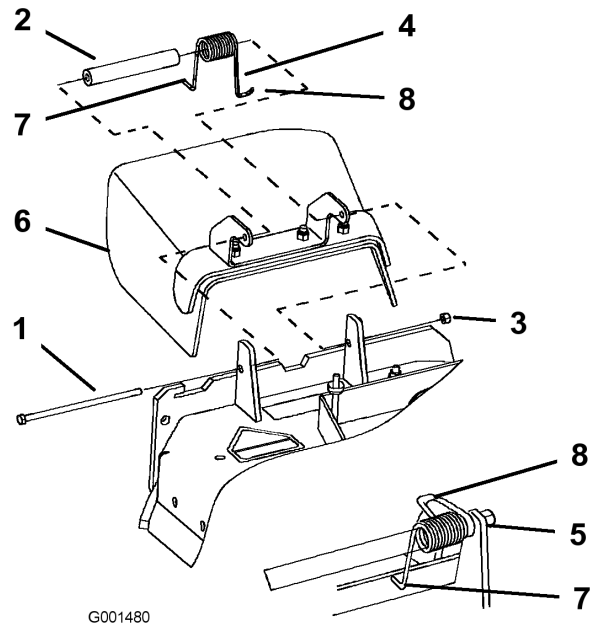

Figure 44
1. Remove the locknut, bolt, spring and spacer holding the deflector to the pivot brackets (Figure 44). Remove damaged or worn grass deflector.
Note: Make sure the L end of spring is installed behind deck edge before installing the bolt as shown in Figure 44.
3. Install bolt and nut. Place the J hook end of spring around grass deflector (Figure 44).